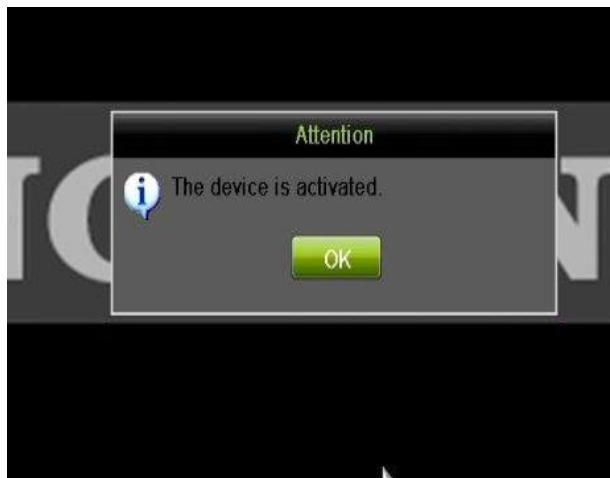

Figure 38, Activation Confirmation Message
5. After an acceptable password has been created, a confirmation message will appear (Figure 38).